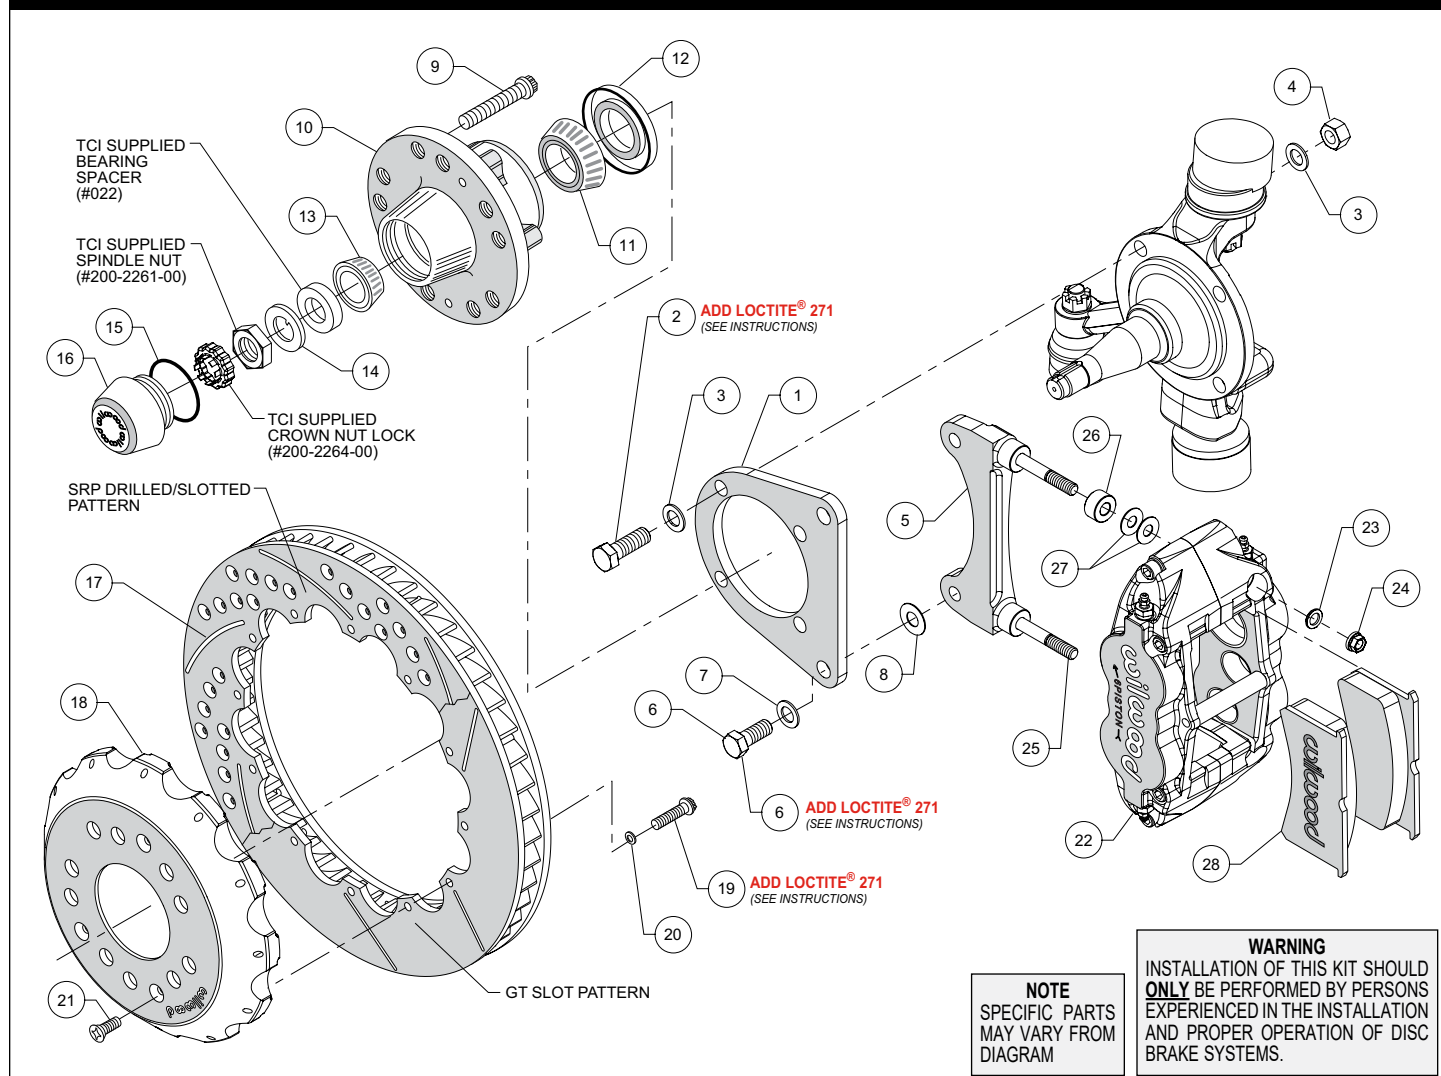
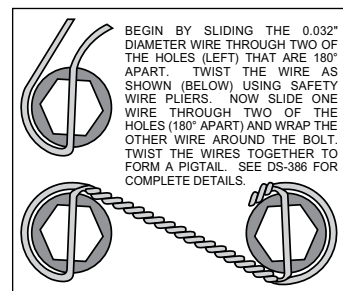

Figure 1. Typical Installation Configuration
Figure 3. Safety Wire Diagram
NOTE: Numbers in parenthesis refer to the parts list and Figure 1 on the preceding pages.
- Orient the flat bracket (1) as shown in Figure 1, and Photo 1, and install using bolts (2), washers (3), and nuts (4). **NOTE:** The two lower mount bolts thread directly into the steering arm. Temporarily tighten the mounting bolts. **NOTE:** The bracket must fit squarely against the spindle face. Inspect for interference from casting irregularities, machining ridges, burrs, etc. After the bracket alignment has been checked, remove the bracket mounting bolts (or nuts) one at a time and apply red *Loctite*® 271 to the threads. Torque bolts to 77 ft-lbs.
- The radial mount caliper bracket (5) should initially be installed with clean, dry threads on the mounting bolts. Orient the bracket as shown in Figure 1, and Photo 2, and install using bolts (6), and washers (7). Initially place one .029" thick shim (8) on each bolt between the flat bracket (1) and radial mount caliper bracket (5), Figure 1. Temporarily tighten the mounting bolts. Later, after the caliper alignment has been checked, the mount bolts will be secured using red *Loctite*® 271.
- Install wheel studs (9) into the hub (10), Photo 3. Torque to 77 ft-lb. **NOTE:** There are two five lug patterns in the hub (5 x 4.50 and 5 x 4.75). Ensure the correct hub stud pattern is being used to fit the wheel application.
- Pack the large inner bearing cone (11) with high temperature disc brake bearing grease (available from your local auto parts store) and install into the backside of the hub (10), Photo 4.
- Install the grease seal (12) by pressing into the backside of the hub (10), flush with the end of the hub, Photo 4.
- Pack the small outer bearing cone (13) with high temperature disc brake bearing grease and install into hub (10), Photo 5. Slide the hub assembly onto the spindle. Install TCI supplied bearing spacer (#022). Secure using spindle washer (14) and TCI supplied spindle nut (#200-2261-00). Bearing adjustment: Tighten the nut while turning the hub. When there is a slight bind on the bearings, they are seated correctly. Back the nut off about 1/6 to 1/4 of a turn, or sufficiently to allow .001" to .007" end play. **WARNING:** Failure to back off adjusting nut could cause bearing to run hot and be damaged, which could cause the wheel to lock or come off. Install TCI supplied crown nut lock (#200-2264-00) and a new cotter pin (not included).
- Orient the rotor (17) and the hat (18) as shown in Figure 1 and Photo 7. Attach rotor to hat using bolts (19) and washers (20). Apply red *Loctite*® 271 to the bolt threads and torque to 155 in-lb using a criss-cross pattern. For an added measure of security, the bolts may be safety wired using standard 0.032 inch diameter stainless steel safety wire as shown in Figure 3. Please refer to Wilwood's data sheet DS-386 (available at www.wilwood.com/Pdf/DataSheets/ds386.pdf) for complete safety wire installation instructions.
- Slide the hat/rotor (17/18) onto the hub (10) taking care to align the small countersunk holes in the hat with the small threaded holes in the hub. **NOTE:** The hat must fit flush against the hub face or excessive rotor run out may result. Install three flat head screws (21) through the small holes in the hat (18), Photo 8, and torque to 85 in-lb.
- NOTE:** This kit contains distinct right and left hand calipers that must be mounted in a specific direction, as described below. Initially place two .035" thick shims (27) and one spacer (26) on each stud (25) between the caliper and the bracket, as shown in Figure 1 and Photo 9. Mount the caliper (22) onto the bracket (5) using lock nuts (24) and washers (23), Figure 1. Ensure that the caliper is mounted so the largest pistons are at the rotor exit end of the caliper, in relation to the direction of rotor rotation. Temporarily tighten the lock nuts and view the rotor through the top opening of the caliper. The rotor should be centered in the caliper, Photo 10. If not, adjust by adding or subtracting shims (8) between the flat bracket and the radial mount bracket. Always use the same amount of shims on each of the two mounting bolts (6). Once the caliper alignment is correct, remove the radial mount bracket bolts (6) one at a time, apply red *Loctite*® 271 to the threads, and torque to 105 ft-lb.